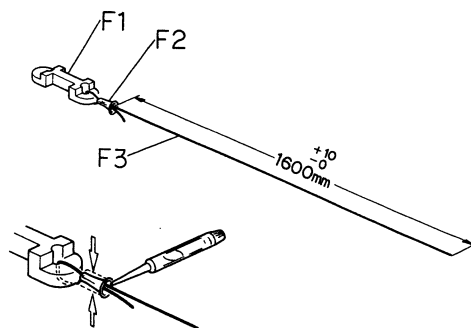

Fig. 5.1
- (1) Dismount the cabinet assembly and front panel assembly from the body, and remove the tuner block from the chassis.
- (2) Refer to Fig. 5.1. Hitch F3 (dial thread) to F1 (sp stopper) with F2 (thread guide) containing the thread at the tip of F1. After pinching F2 with cutting pliers or similar, drip a drop of AVDEL BOND #C-2 onto the crushed F2 for fixing.